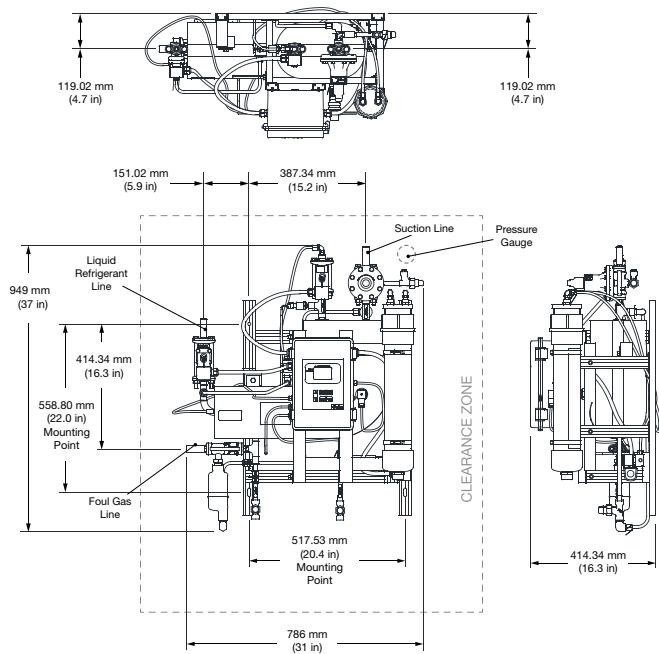

Figure 5: Purger Dimensional Information
1. Mount the Rapid Purger to a wall or structure that can easily handle its weight and installation hardware. The approximate weight of the purger is 34.5 kg (76 lbs). Figure 5 provides dimensional information for the mounting holes, line locations and overall purger height, width and length.
Make sure to leave access for servicing the unit if required. The recommended clearance zone, as shown in Figure 5, is 254 mm